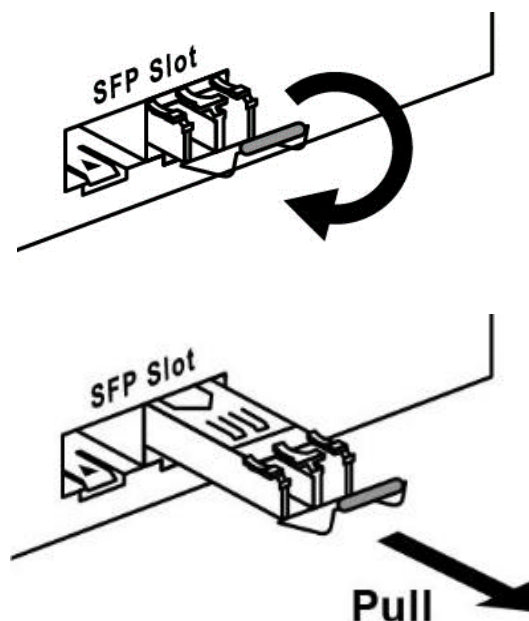

Figure 2.8: Pull Out from the SFP Module
Step 2. Push down the metal clasp and pull the transceiver out by the plastic part as shown below in Figure 2.8